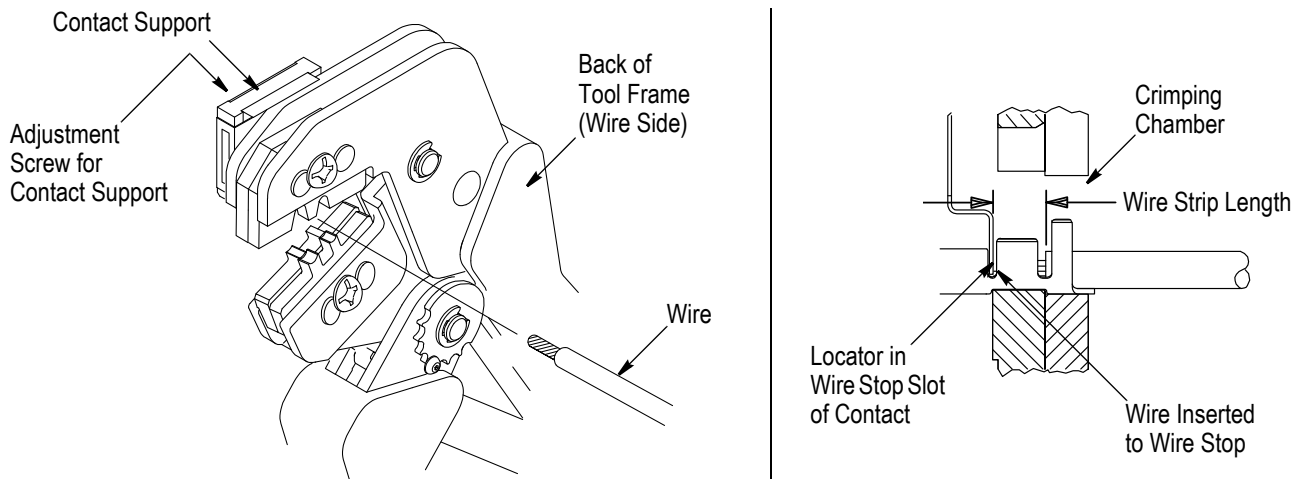

Figure 3
the tool frame. Place the contact up into the crimping chamber so that the locator drops into the slot in the contact. Refer to Figure 3. Butt the front end of the wire barrel against the locator.
5. Insert the stripped wire into contact insulation barrel and wire barrel until it is butted against the wire stop as shown in Figure 3.
**NOTE** The crimped contact may stick in the crimping area; however the contact can be removed by pushing downward on the top of the locator (see Figure 3).